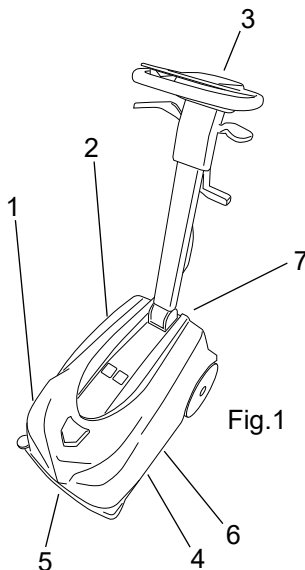

Fig.1
- The water/detergent tank (fig. 1, ref. 1) contains and carries the mixture of clean water and cleaning product.
- The dirty water tank (fig. 1, ref. 2) collects the dirty water picked up from the floor after washing;
- Control panel (fig. 1, ref. 3).
- Head assembly (fig. 1, ref. 4), the main element comprises the brush that spreads the detergent solution over the floor and washes the surface, bringing about the removal of the dirt.
- Front squeegee assembly (fig. 1, ref. 5), which wipes and dries the floor when the machine is pulled toward the operator.
- Rear squeegee assembly (fig. 1, ref. 6), which wipes and dries the floor when the machine is pushed forward by the operator.
- Battery (fig. 1, ref. 7).